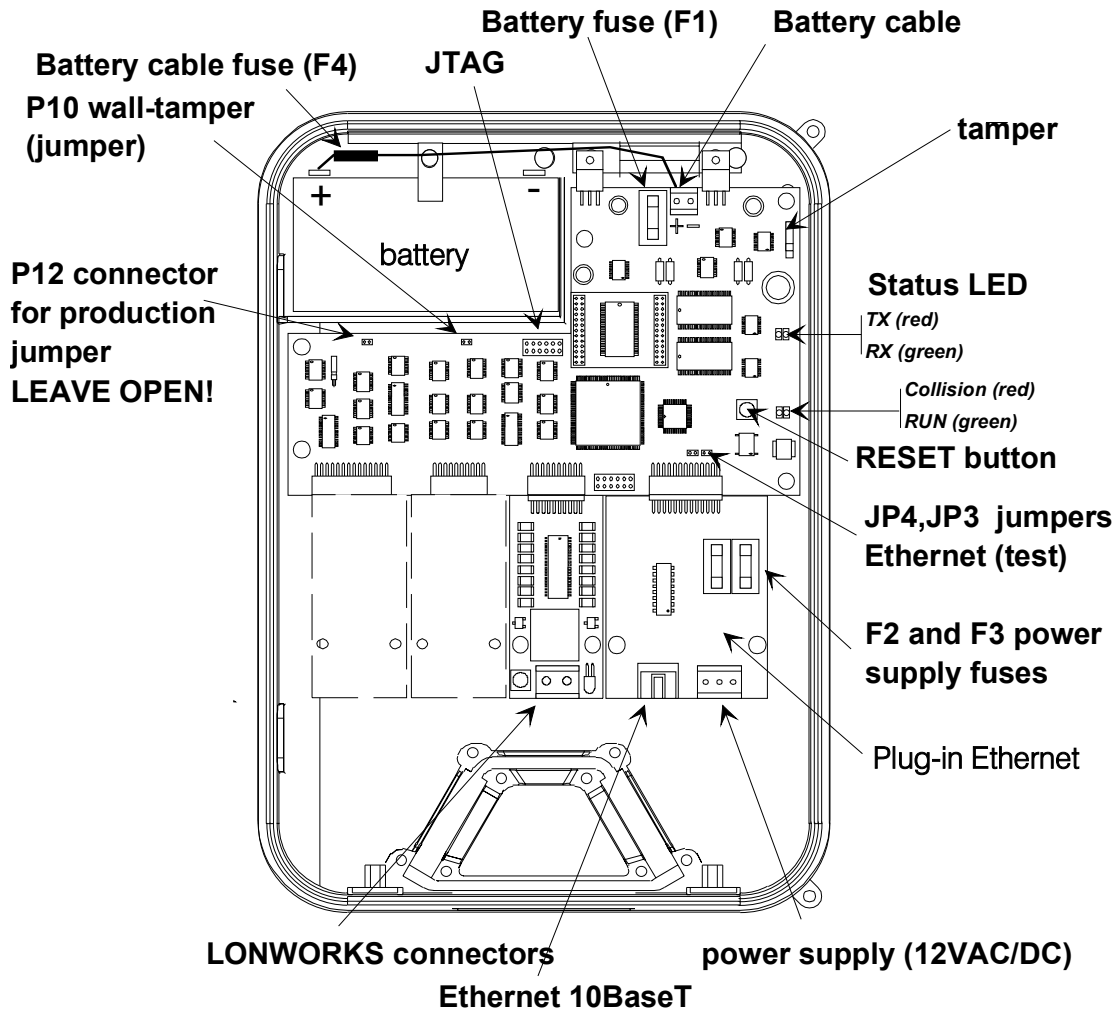
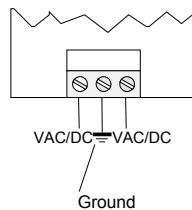

Figure 8. Main Circuit Components
Figure 9. Close-Up View of the 12VAC/DC Supply
3. Insert the cable into the corresponding connector (see Figure 8) to complete the connection to the LAN Ethernet 10BaseT (twisted-pair).
When 12V of electric current is enabled (see Figure 9), the terminal commences operation and the green “RUN” LED lights up (see Figure 8).